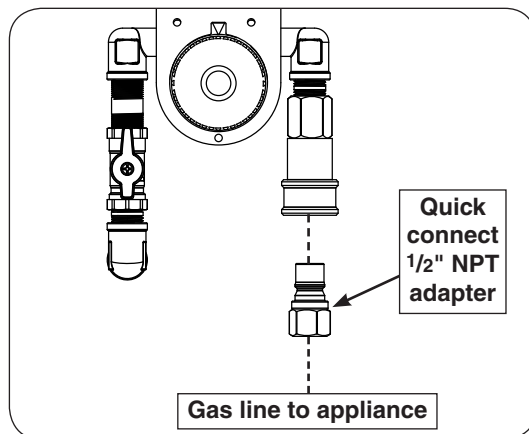

Fig. 2-3 Connect to gas line
2. Connect the other end of the adapter to the quick connector located inside the box assembly (see Fig. 2-3).